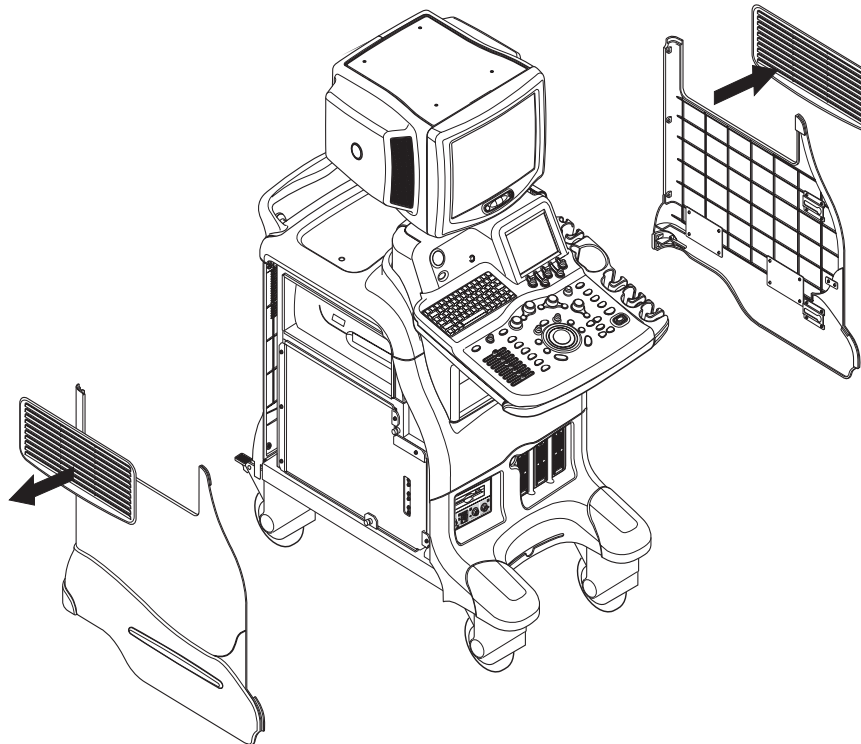

Figure 8-68 Removing Side Caps
- 4.) Pull the Side Cap upward from the Right Cover. Refer to Figure 8-68 on page 8-52 .